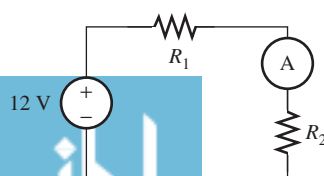

FIGURE P14.13 Circuit
- 14.13** (A)* In Figure P14.13, determine the error percentage of the current reading due to the insertion of an ammeter. $R_1 = 3 \text{ k}\Omega$, $R_2 = 5 \text{ k}\Omega$, and the internal resistance of the ammeter is $R_g = 50 \Omega$.